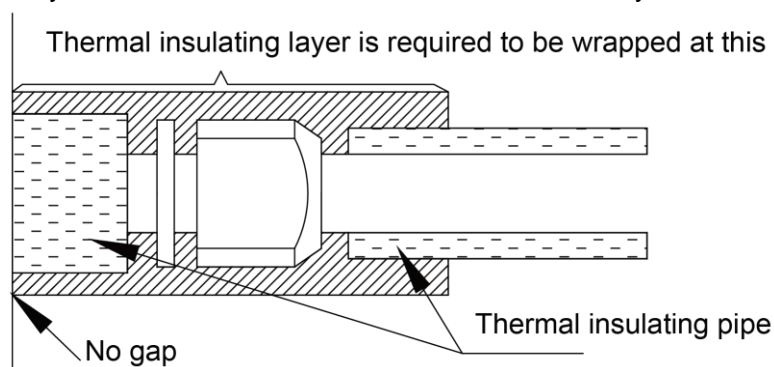

Fig.18
- 3) Joints of indoor unit, outdoor unit and hydro box should be wrapped with insulating material and contact directly with the wall of indoor unit, outdoor unit and hydro box. See Fig.18.